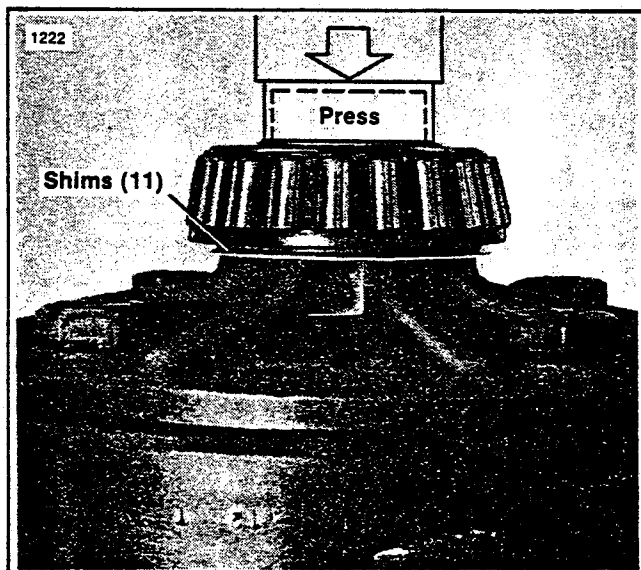

Figure 3-22. Pressing On Differential Bearing
- When pressing on new differential bearings (8), original shims (11) may be reused in their original location if they were not damaged during disassembly. If new shims are used, be sure they are the same thickness as originals. Press on inner race of bearing only (Figure 3-22).